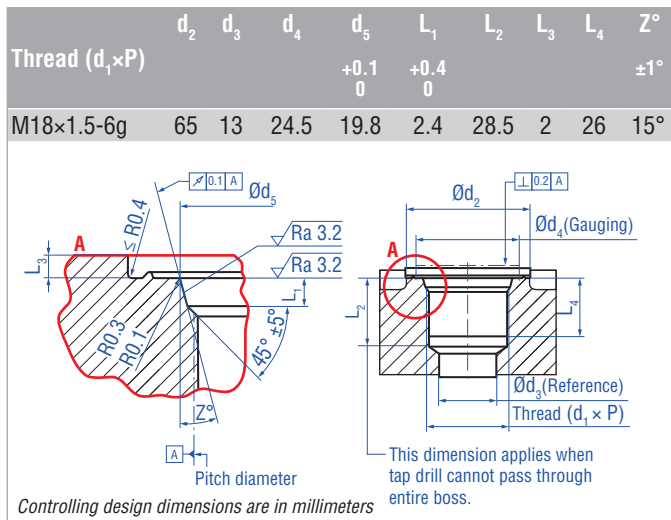

Fig. 15: Notice for threaded flange M18×1.5-6g based on DIN ISO 6149-1
2. A sealing via an 15.3 × 2.2 mm (0.6 × 0.09 in.) O-ring in the flange undercut on the flat-faced or raised-face flanges. In this case, a screw hole based on ISO 6149-1 (fig. 15 page 16) must be provided. See ISO 6149-1 for further information.